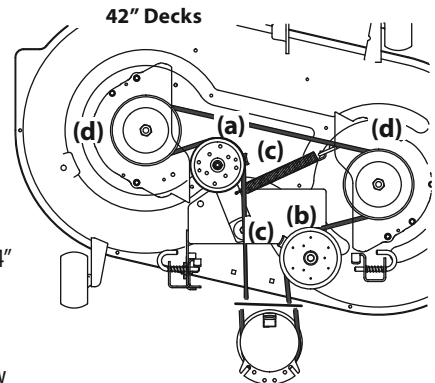
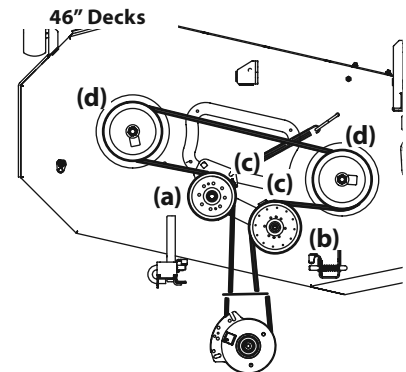
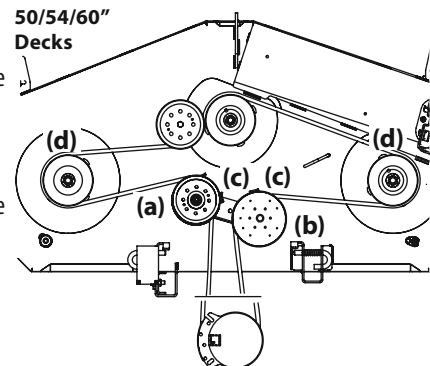

Figure 43
Figure 44
Figure 45
2. Loosen, but do not remove the hardware on the right (a) and left idler pulley (b). Refer to Figure 43 for 42" decks, Figure 44 for 46" decks and Figure 45 for 50", 54" and 60" decks.